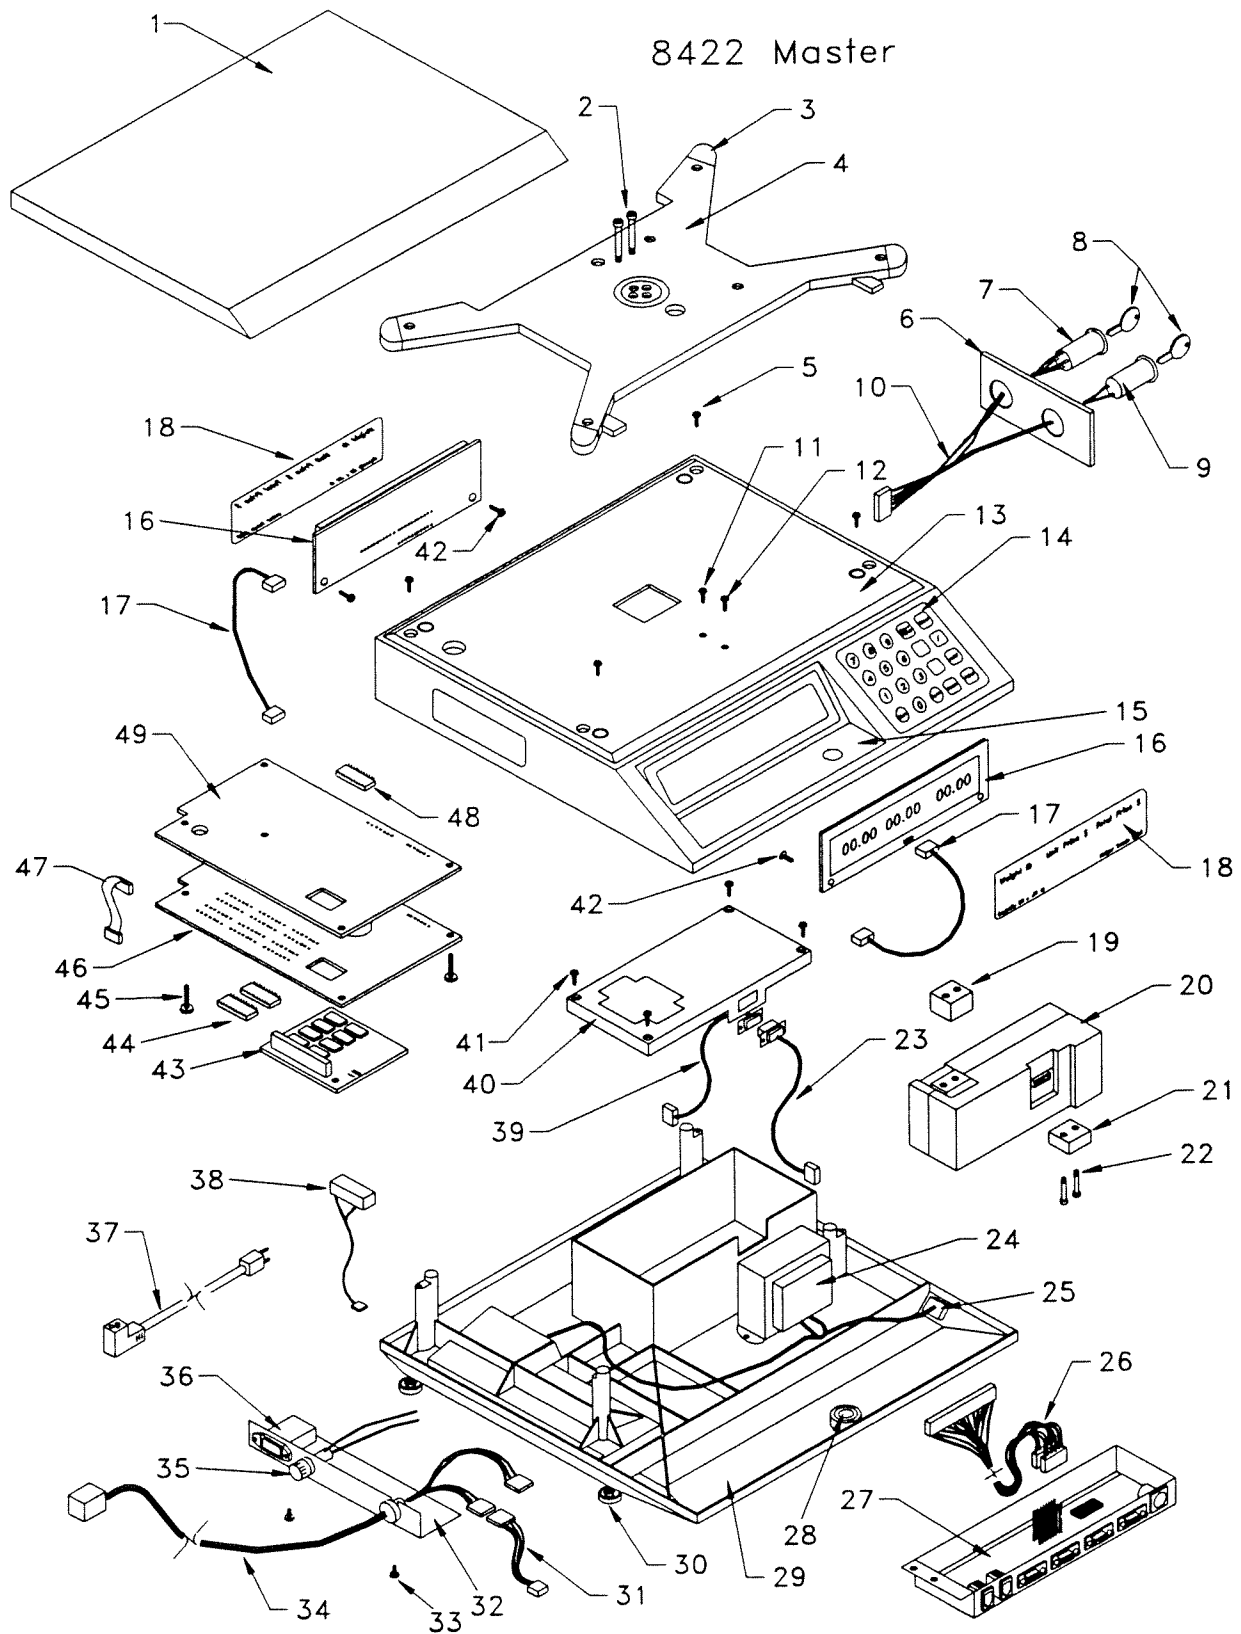

Figure 9.2 8422 Master
9.2 8422 MASTER REPLACEMENT PARTS FIGURE 9.2